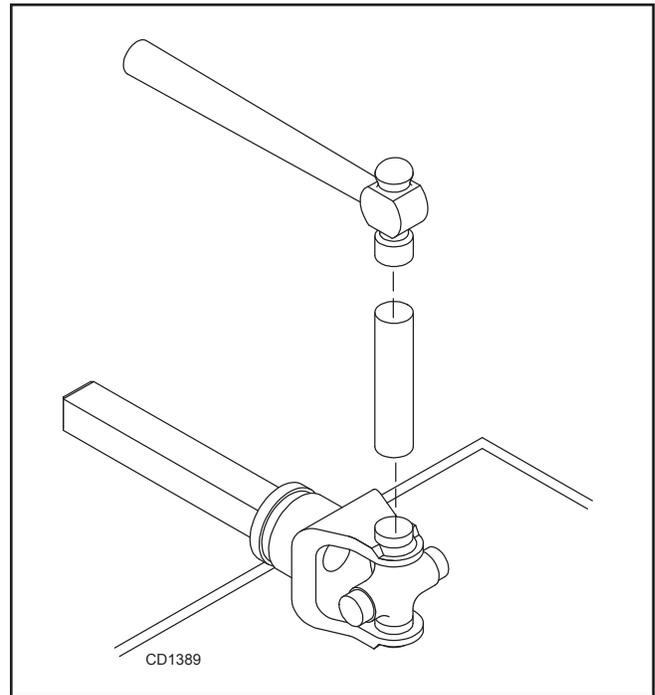

Figure 25.
2. Seat cups by placing a drift or socket (slightly smaller than the cup) on cup and rap with a hammer. See Figure 25. Install snap ring and repeat on opposite cup.